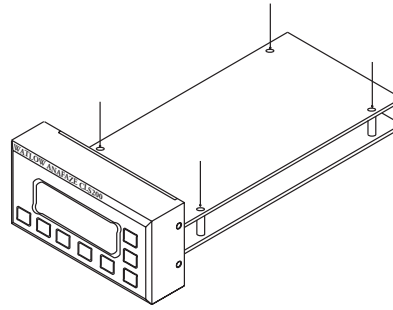

Figure 9.2 Screws Locations on PC Board
5. Unscrew the four screws at the corners of the top board and carefully unplug this board to access the bottom board (processor board). *Figure 9.2* shows the screws to remove: